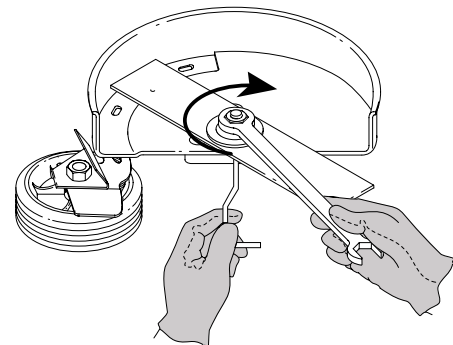

Fig. 30
2. While holding the locking rod, loosen the nut on the blade by turning it **clockwise** with a 5/8 inch wrench (Fig. 30). Remove the nut, retaining washer and blade. Keep the nut and blade retainer for installation.